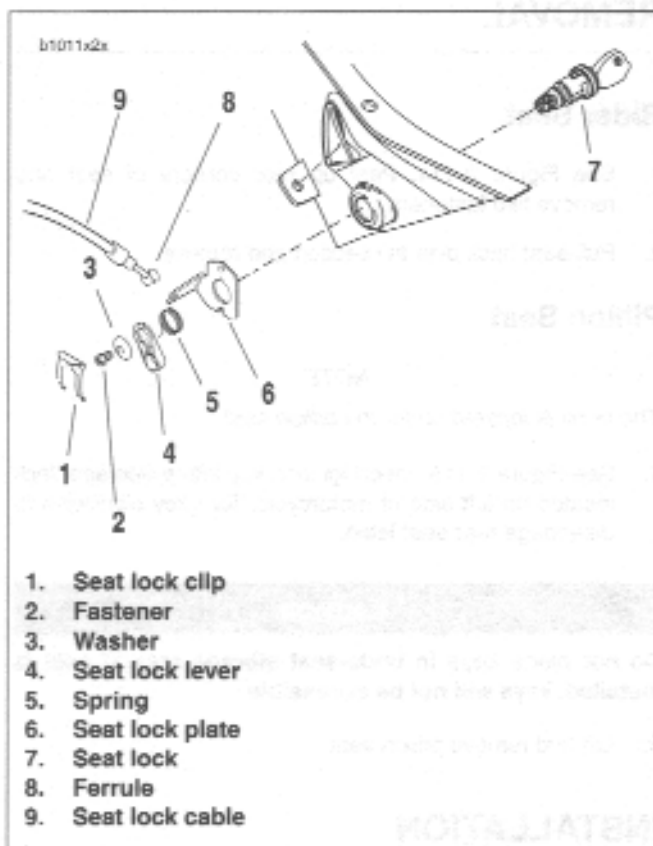

Figure 2-117. Seat Lock and Cable Assembly
3. See Figure 2-117. Disconnect passenger lock cable (9) by removing cable from seat lock plate (6) and ferrule (4).
4. Remove seat lock lever (4) by removing fastener (2) and washer (3) from seat lock (7).
5. Remove spring (5).
6. Remove seat lock clip (1) by sliding from seat lock plate (6).
7. Remove seat lock plate (6) and seat lock (7).
1. See Figure 2-117. Install the seat lock (7) on to upper tail body work.
2. Install seat lock plate (6) by aligning plate tab onto seat lock (7).
3. Install seat lock clip (1) by sliding clip aligning clip groove onto seat lock plate (6) tab.
4. Position short tab of spring (5) into seat lock notch.
5. Position long end of spring into the seat lock lever (4).
6. Load the spring (5) by turning the seat lock lever (4) counterclockwise 1/4 turn.
7. Once the spring is loaded, install the seat lock lever (4) onto the lock aligning the lever to the square groove that is cast into the seat lock (7).
8. Fasten the lock lever (4) to the seat lock (7) with the washer (3) and fastener (2).
9. Install the ferrule (8) of the seat lock cable (9) into the seat lock lever (4).
11. Install the seat lock cable (9) into the seat lock plate (6).